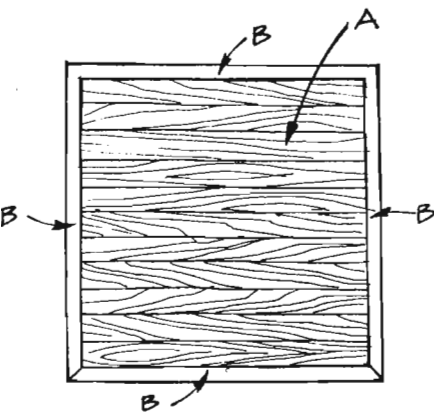

Figure 1
2. Place the two trimmed laminated sections, 46-inch sides together, on a level surface. Wipe glue on the meeting edges, and clamp them together securely with two or three bar clamps for at least 24 hours. The result is a table top (A) that now measures 46 inches square.
3. Cut four table top trim pieces (B) from 1 x 4 pine, each 50 inches long.
4. Rip each trim piece (B) to 2 inches in width. For assistance with ripping a piece of wood, refer to the “Tips and Techniques” section.
5. The next step is to frame the table top (A) with the 2-inch-wide trim pieces (B), as shown in *Figure 1*. First, setting each piece on its face, miter both ends of all four trim pieces (B) at a 45-degree angle. Then wipe glue on the mitered ends and meeting edges, and clamp the trim pieces (B) to the table top (A) using bar clamps. Leave the assembly undisturbed for at least 24 hours. The framed top now measures 50 inches square.